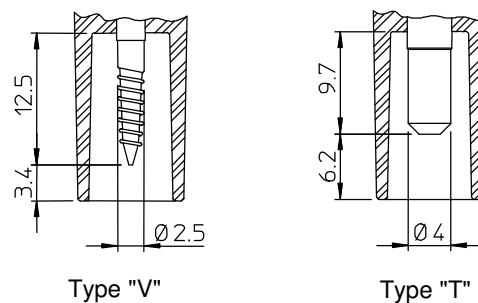

Fig. 8
- V: screw fixing system (Fig. 8);
T: fixing system with terminal Ø 4 (Fig. 8);
The connection of high voltage cables can be of two types, according to the terminals used inside the isolators: connections can be carried out by means of a screw or of a cylindrical terminal with 4 mm diameter, as shown in Fig. 8. All connectors, including the ones complete with cable, can be supplied on request.